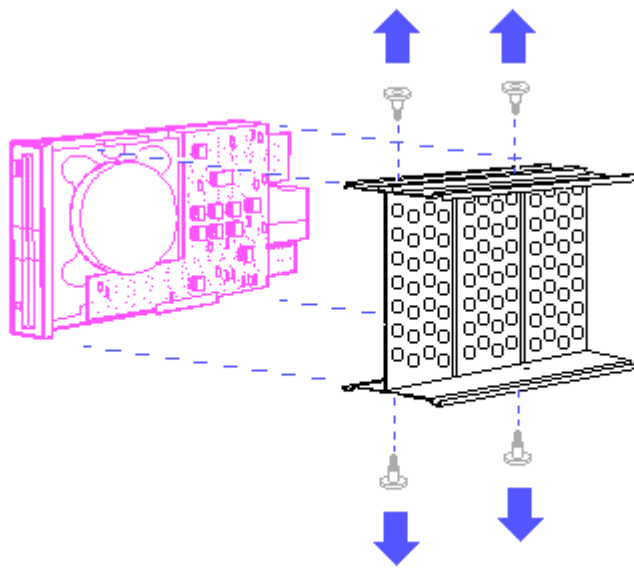

Figure 8-49. Removing the Diskette Drive
6. Remove the four shoulder bolts from the mass storage device subassembly and slide the diskette drive assembly out of the mass storage device subassembly (Figure 8-49).
NOTE: When removing the diskette drive, do not misplace the four vibration isolators shown in Figure 8-49. You must use all four vibration isolators to replace the diskette drive assembly.